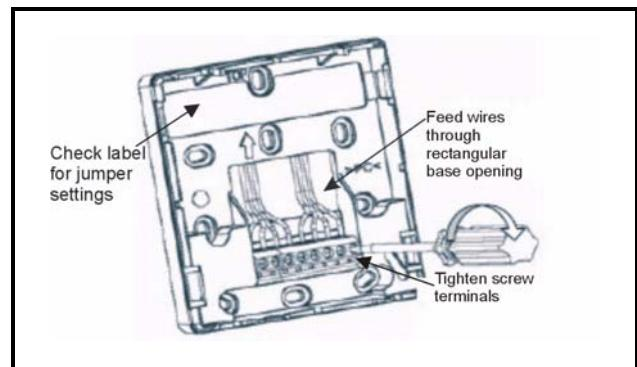

Figure 1-1 - Sensor Base Opening With Screw Terminals
2. Feed the power and signal wires through the rectangular opening in the base (**Figure 1-1**).
The jumper settings for refrigerant types are located on the label inside the MRLDS sensor cover (shown in *Figure 1-1*). Set the jumpers according to how they are indicated on the label.